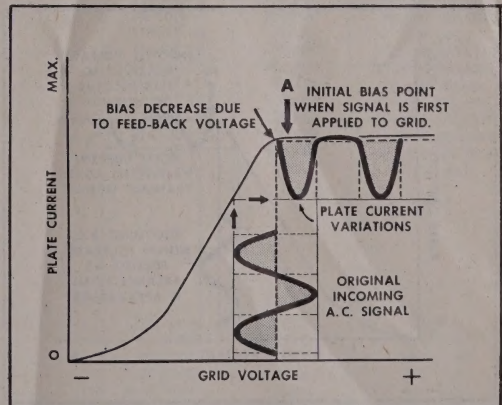
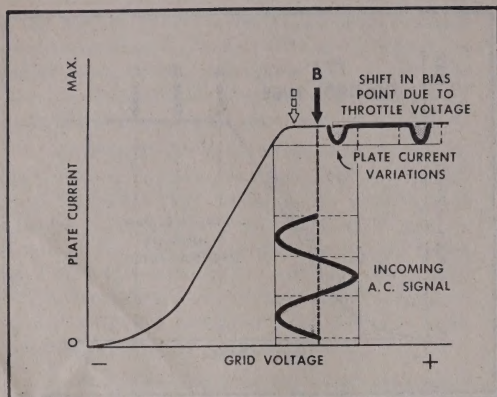
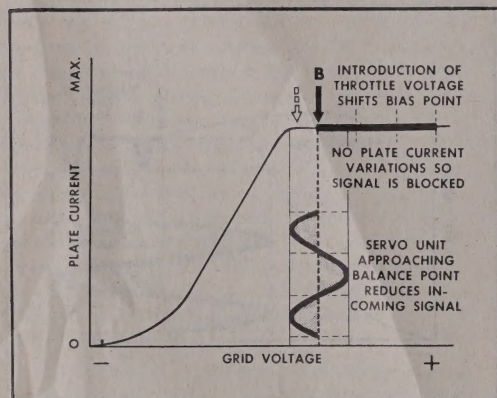
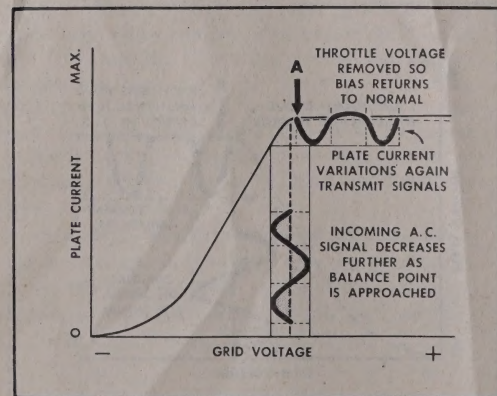

Fig. 126—Effect of Feed-back on Control Tube Output
Fig. 127—Effect of Throttle Voltage on a strong Signal
Fig. 128—Effect of Throttle Voltage on a weak Signal
Fig. 129—Signal diminishes as Servo reaches Balance Point
3. **FEEDBACK**—Signals which are just barely strong enough to offset the positive sensitivity voltage result in weak plate voltage fluctuations. These weak signals, when applied to the discriminator tube would result in hesitant, chattering operation of the relays or possibly no relay operation at all. Therefore, the circuit provides for the application of a negative **FEEDBACK** voltage which reduces the sensitivity voltage, as shown in Fig. 126. This voltage is a pulsating, negative D.C. voltage which is picked up from the resistor (R36) illustrated toward the right in Fig. 123. Note that whenever current flows through either section of the discriminator tube, a voltage drop appears across this resistor, and the negative potential of the top end of the resistor (R36) is fed back to the grid of the control stage.
When an A.C. signal is applied to the grid of the control tube with the sensitivity set at point A, the effect of the feed-back voltage is to increase the sensitivity of the tube by shifting the bias point slightly to the left of point A, as shown in Fig. 126. This will increase the amplifying effect of the tube to produce strong, firm closing of the proper relay in the discriminator plate circuit.
The effect of the throttle voltage is to move the bias point of the tube toward the right to position B in Fig. 127. Comparing Figs. 126 and 127, note how this positive shift of the bias point decreases the size of the plate current variations resulting from the same input signal. The tube continues to operate with the bias point at B as long as the signal is strong enough to cause plate current variations. However, as the Servo Unit starts to balance the bridge circuit, the incoming A.C. signal gradually diminished until the condition shown in Fig. 128 is reached. At this point the signal is not sufficient to overcome the strong positive bias and plate current fluctuations cease. When this happens the relay opens, breaking the throttle circuit and removing the throttle voltage, with the result that the bias point is returned to position A, as in Fig. 129.